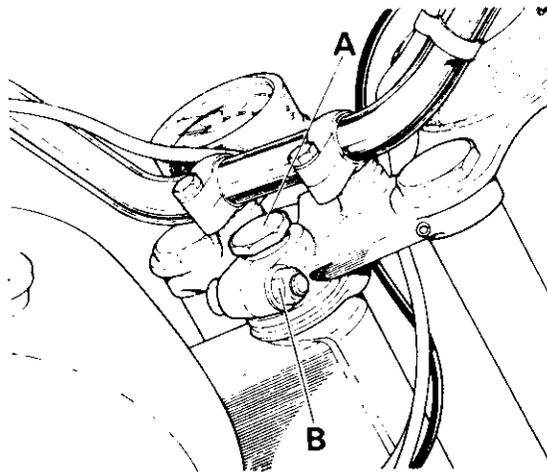

Fig. G1. Steering head adjustment
To adjust the steering head assembly, slacken the clamp nut B, Fig. G1 and the top yoke adjuster nut A then tighten down the adjuster nut until adjustment is correct. There should be no play evident
Slacken the top lug pinch bolt (A) fig. G1 and remove adjuster and middle nut (B). Loosen both the top lug stanchion pinch bolts with an allen key. Slide fork leg and stanchion from the lugs.
The steering head outer races have a very long serviceable life and should not need replacement for a very considerable mileage. If however their replacement is deemed necessary the races can be removed using a suitable drift from inside the head lug. Replacement of the new race is effected by using service tool 61-6121. Do not forget to refit the bearing abutment rings behind the outer races. Reassembly is the reverse of the above procedure. Grease the bearings prior to replacement, see Section A1 for correct grade. Note that head of both the top lug and stanchion must be flush leaving the head of the inner retaining plug standing proud. Care must be taken to ensure that the headlamp shrouds are located correctly in the prespective recesses in the top plug. Note that when refitting the plastic dust cover ensure that it sits square to allow the adjuster nut, (fig. G1 (A)) to locate on the bearing. Readjust the steering head bearing as in Section G1. Reassemble the hydraulic system as described in Section F6.